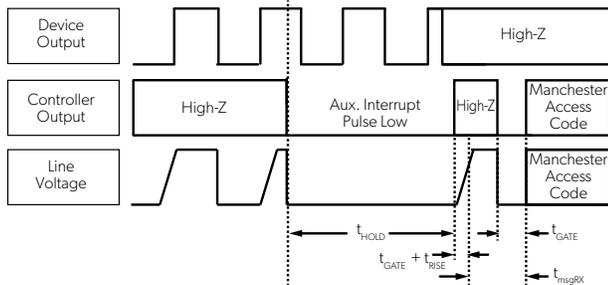
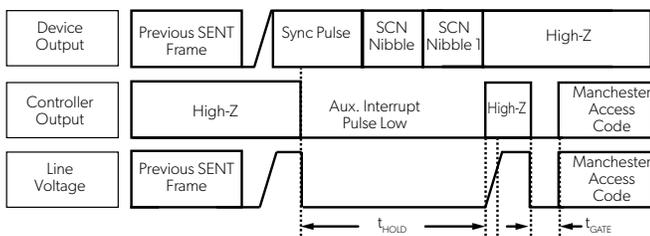

Figure 28: Entering Manchester from PWM
Figure 29: Entering Manchester using SENT
2. If using a form of free-streaming or Triggered SENT (OUTMSG_MODE = 1, 2, 6, or 7) the SENT frame must be interrupted by an Auxiliary Interrupt Pulse followed by the Manchester entry code (as shown in Figure 28 and Figure 29).
To initialize communication using the Manchester Auxiliary command when the A33022 is configured with PWM output, the auxiliary interrupt pulse can be applied at any time. The auxiliary pulse must have a minimum width of t_{HOLD} , after which the pulse is released for t_{GATE} plus the rise time to allow the line to pull high and the device to register a rising edge. After this, the controller must pull low for t_{GATE} before beginning to send the Manchester access code. If the device does not recognize the first rising edge of the Manchester access code before t_{msgRX} , after the hold time, a timeout of the device occurs, Manchester initialization aborts, and PWM functionality returns. The Manchester Auxiliary command for PWM output is shown in Figure 28.
To initialize communication using the Manchester auxiliary command when the A33022 is configured with free-streaming SENT (OUTMSG_MODE = 1 or 7), the auxiliary interrupt pulse can begin at any time. The pulse must have a minimum width of t_{HOLD} , after which the pulse must be released for t_{GATE} plus the rise time to allow the line to pull high, followed by a low period of t_{GATE} before sending the Manchester access code. If the first rising edge of the Manchester access code is not observed before t_{msgRX} , a timeout of the the device occurs, Manchester initialization aborts, and the device returns to normal functionality. The Manchester auxiliary command is shown in Figure 29.